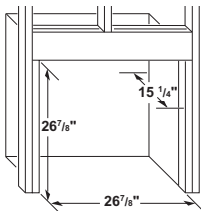
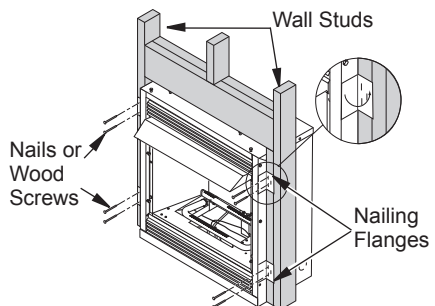

Figure 8 - Rough Opening for Installing in Wall
Figure 10 - Attaching Fireplace to Wall Studs
1. Frame in rough opening. Use dimensions shown in Figure 8 for the rough opening. If installing in a corner, use dimensions shown in Figure 10 for the rough opening. The height is 26 ⁷/₈" which is the same as the wall opening above.
7. Bend four nailing flanges on outer casing with pliers (see Figure 10).